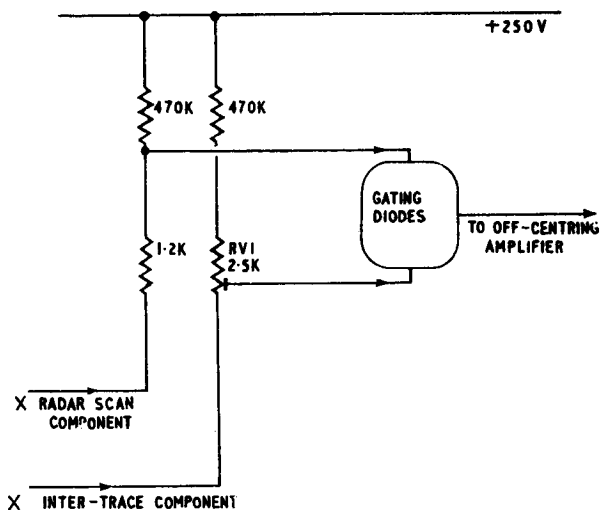

Fig. 8. Action of RV 1
17. Small variations in diode characteristics are liable to introduce small differences in DC levels on scan and inter-trace input, resulting in different levels at P even when SK3 and SK4 are both earthed. If uncorrected, this results in lack of coincidence between the scan origin and the strobe origin; so to provide a compensation for such differences each input is given a small positive DC level (fig. 8), which is fixed for the radar-scan input (junction of R10 and R16) and variable for the inter-trace (slider of 2.5 K Ω potentiometer RV1). RV1 thus provides an adjustment to ensure coincidence of scan origin and strobe origin.